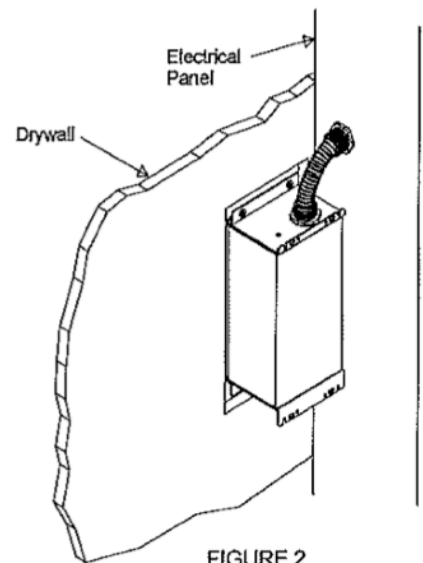

FIGURE 2
6. Insert PQ SPD into drywall cutout and connect flexible conduit to electrical panel (FIGURE 2).